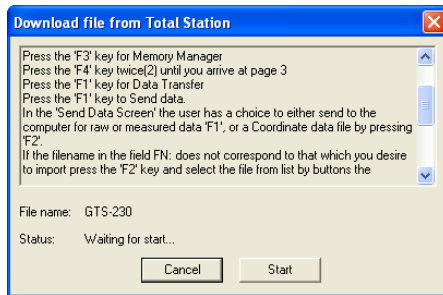

Figure 3-44. Total Station Instructions – Preparing for Import
7. Follow the all the steps listed in the **Download File From Total Station** dialog box to prepare the Total Station (Figure 3-44).